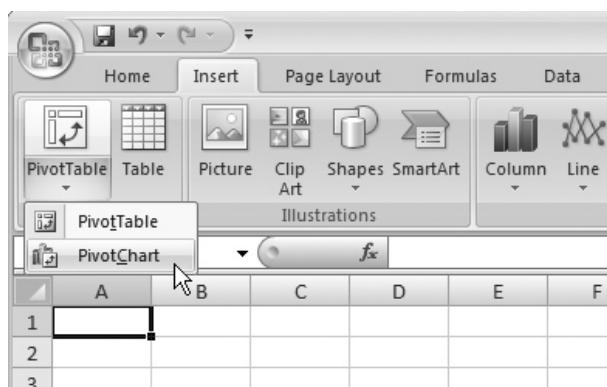

Figure 19-17 Creating a pivot chart
3. Select PivotChart from the drop-down list below the PivotTable icon, as shown in Figure 19-17. The Create PivotTable with PivotChart dialog box appears.